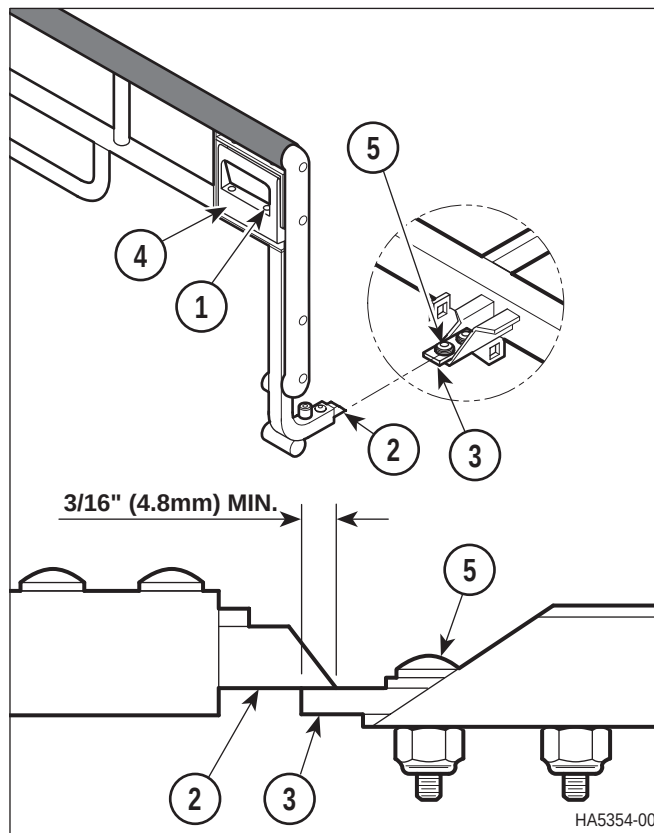

Figure 4-29. Siderail Latch Adjustment
- (1) Turn screw (1, Figure 4-29) until latch bolt (2) has a minimum of 3/16 in. (4.8 mm) engagement with latch plate (3).
- (2) Repeat step 1 for other siderail latch; then adjust both screws (1) until pulling handle (4) causes both latch bolts (2) to release from their latch plates (3) simultaneously.